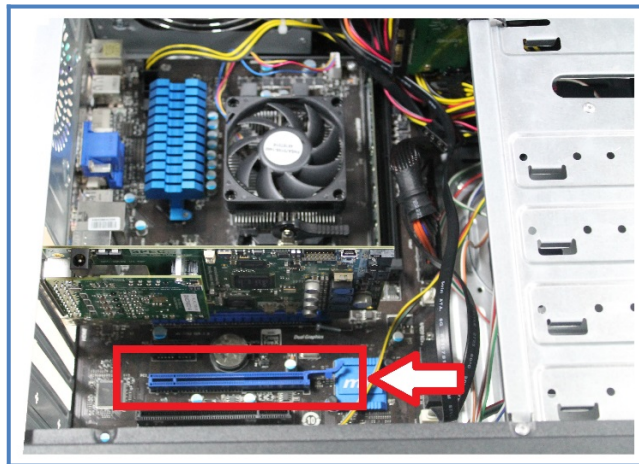

Figure 9: PCIe slot for the extender cable
- 6) Plug the other side of the **PCIe extender cable** into the computer slot indicated in Figure 9. Mount the computer cover back to close the computer box. Make sure the screws are back on their place.